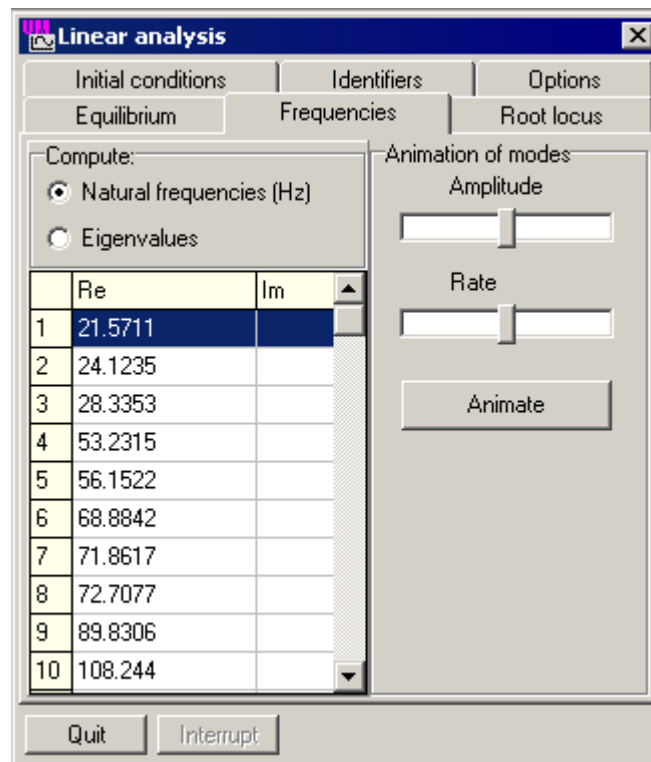

Figure 3.23
5. Select the **Frequencies** tab. Natural frequencies of the model are calculated automatically, Fig. 3.23.